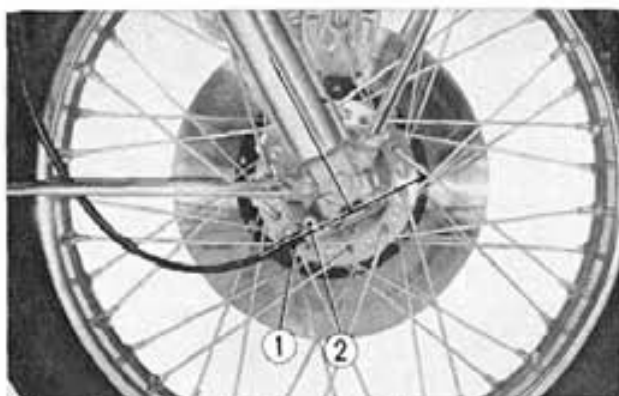

Fig. 13-13 ① Speedometer cable
7. Connect the speedometer cable to the gear box. (Fig. 13-13)